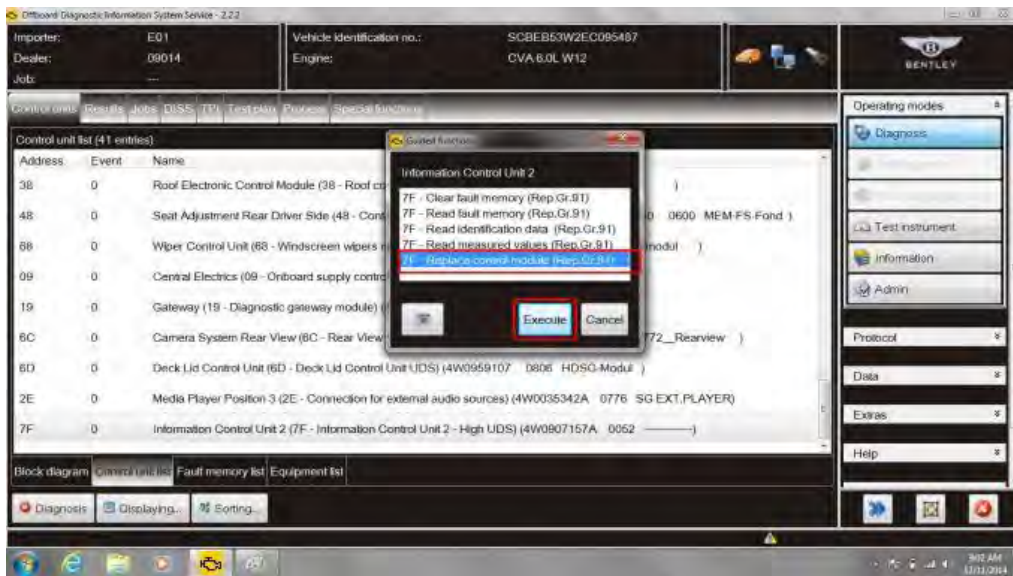

Figure 4
9. Within Control units, Information Control Unit 2, Select **Replace control module** and then **Execute** (see Figure 4)